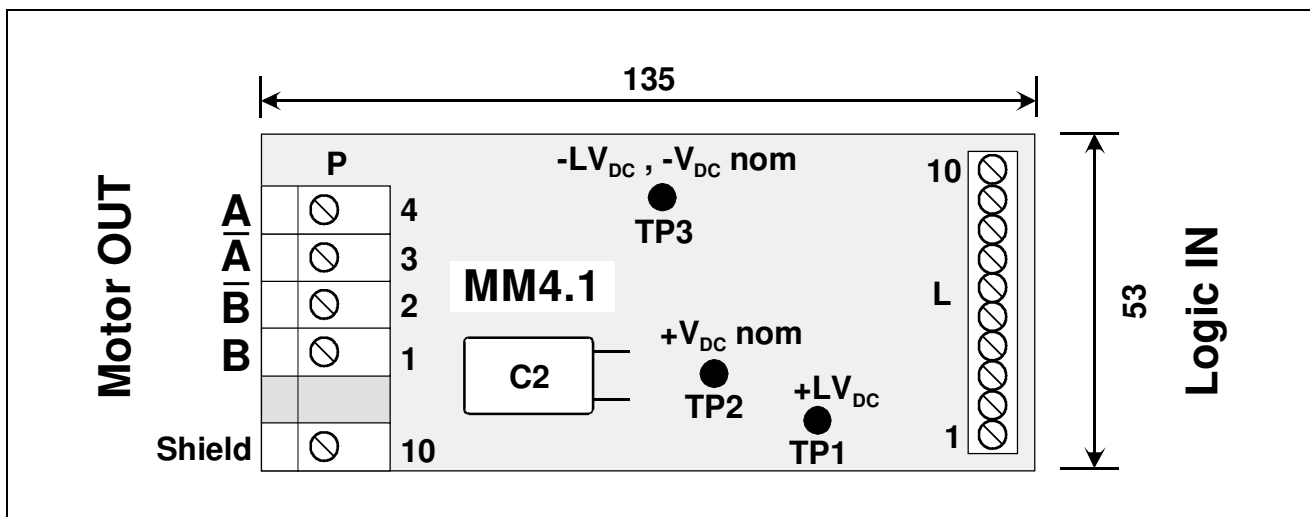

Fig. 5 - DRIVE MOTHERBOARD REAR VIEW (FROM SCREW CONNECTOR SIDE)
- 8.4 - Motherboard MM4 is a printed circuit board, which is mounted on the rear rails of a 3 units rack. The motherboard holds, on the face towards rack front, a DIN 41612 form D connector (where drive is inserted) and, on the back face, two screw-type terminals (P and L in fig. 5) connected to corresponding pins of the DIN connector (see column MOTH. in tables 1 and 2). Screw-type terminal P is used for connections with motor, where screw-type terminal L is used for connections with control logic. The three terminal points (TP1, TP2, TP3), where the bus-bars (connected to the Power Supply motherboard PM2) are soldered, are used to carry $V_{DC\ nom}$ supply voltage and a 12 Volts source for auxiliary purposes.